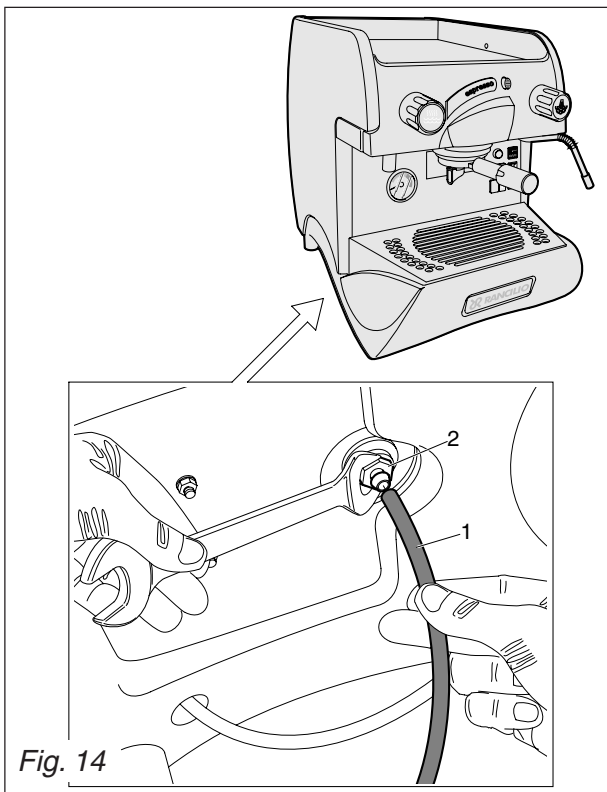

Fig. 14
- Insert a rubber hose (1) into the hose-end fitting (2) (Fig.14)
- Loosen the hose-end fitting (2).
- Allow the water to flow out completely; then, close the fitting (2) and remove the rubber hose (1).